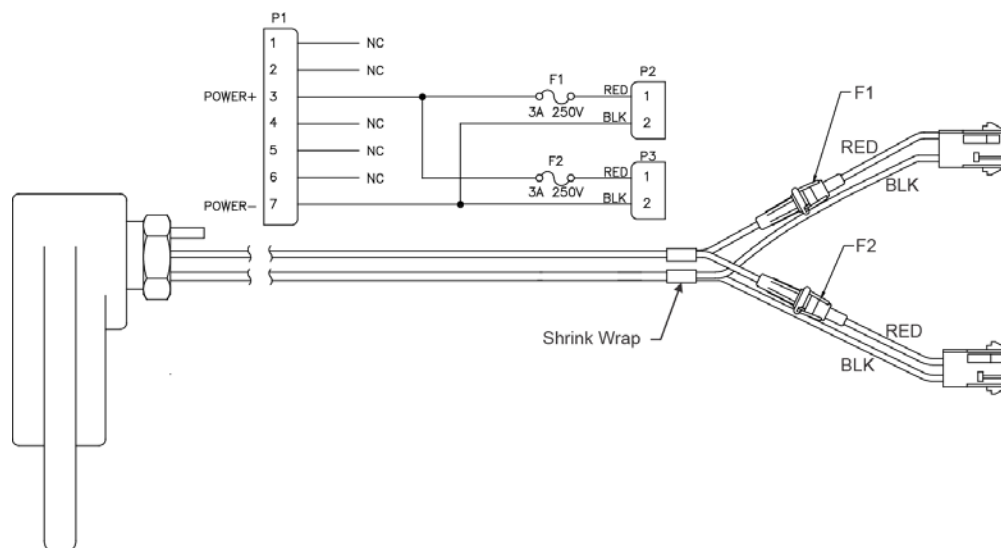

Figure 39. WorkHorse External Battery Case Wiring
17. For the WorkHorse External Battery Case, cut the wires on pins 1, 2, 4, 5, and 6 to 6mm long. Shrink wrap the bare ends of the wires. Place shrink wrap around the splices on pins 3 and 7 (see Figure 39. WorkHorse External Battery Case Wiring).